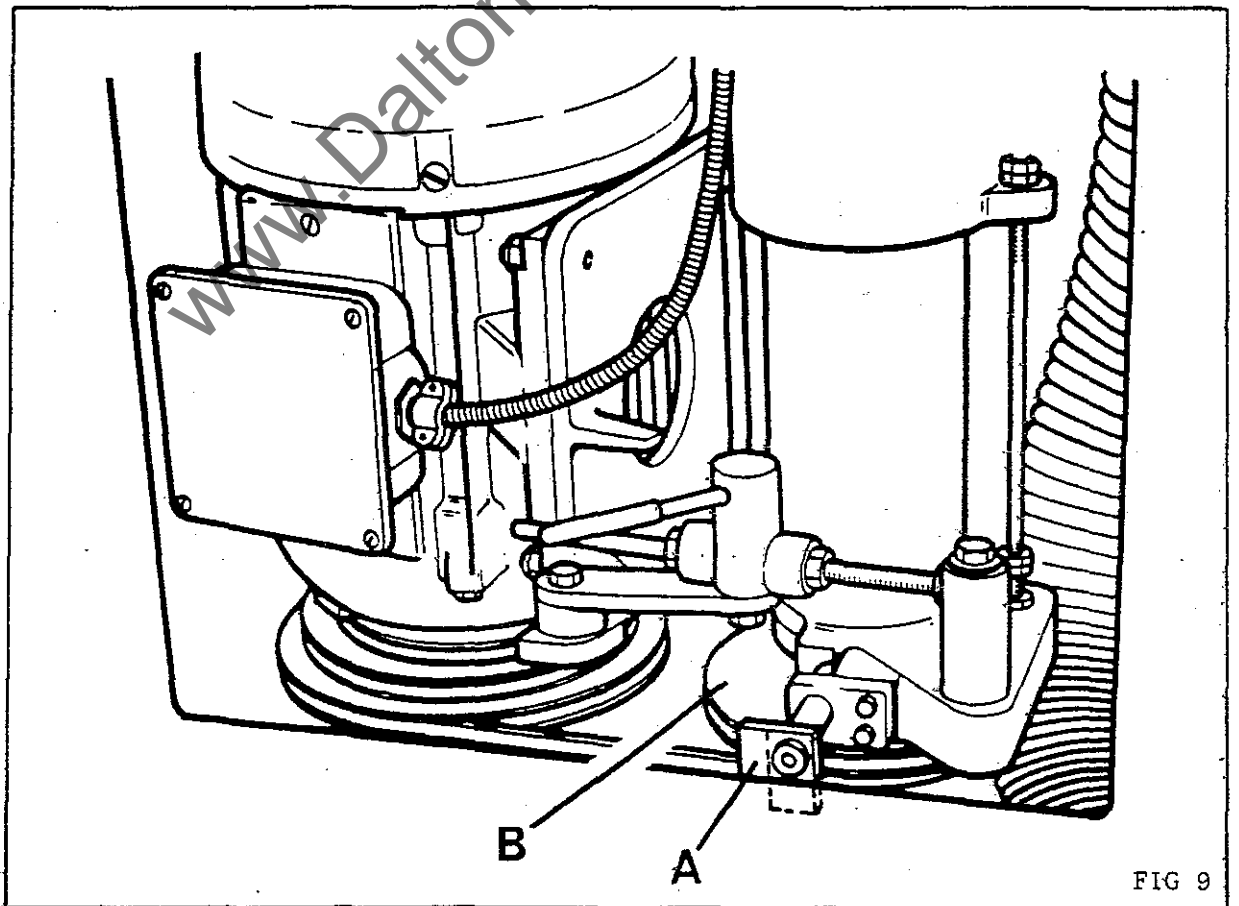

FIG 9
2. Open door on left side of machine for access to spindle drive assembly, SEE FIG 9.